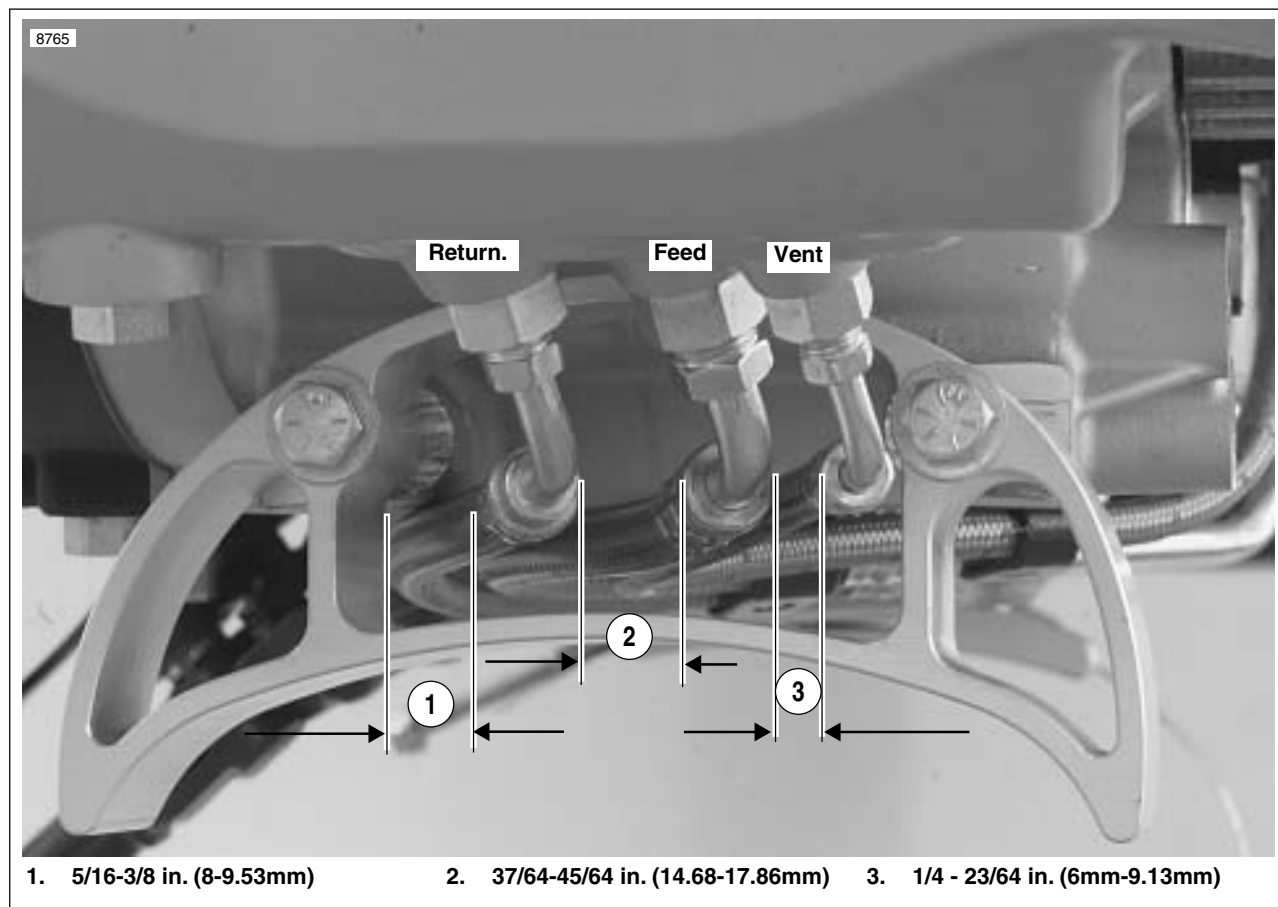

Figure 3-48. Oil Line Clearances
21. See Figure 3-48. Install the return, feed and vent oil lines starting at the swingarm/oil reservoir and working towards the front of the vehicle. Leave all oil line fittings loose at this time.
22. See Figure 3-48. Torque the return oil line first making sure to maintain the proper clearance (1) between the oil line and the rear muffler bracket. Tighten oil line to 23-25 (31.2-33.9 Nm).
23. Arrange the feed line and the return line so that the distance between is within specifications (2). Torque the feed oil line to 24-26 ft-lbs (32.5-35.2 Nm).
24. Arrange the vent line and the feed line so that the distance between is within specifications (3). Torque the vent oil line to 17-19 ft-lbs (23-25.8 Nm).